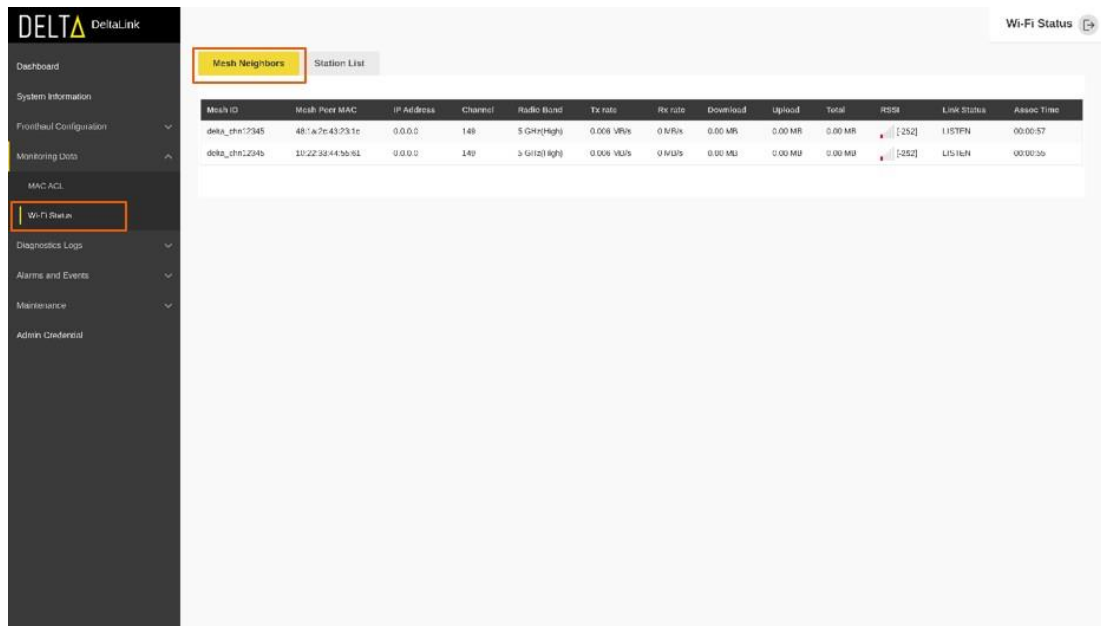

Figure 44 WiFi Status Mesh Neighbours
- Navigate to “Monitoring Data” and select “WiFi Status” from the expanded menu as shown in the Figure 44 below.
- Select the “Mesh Neighbors” tab to view a list of connected mesh neighbors, their link status, and other connection details as shown in the below Figure 44.